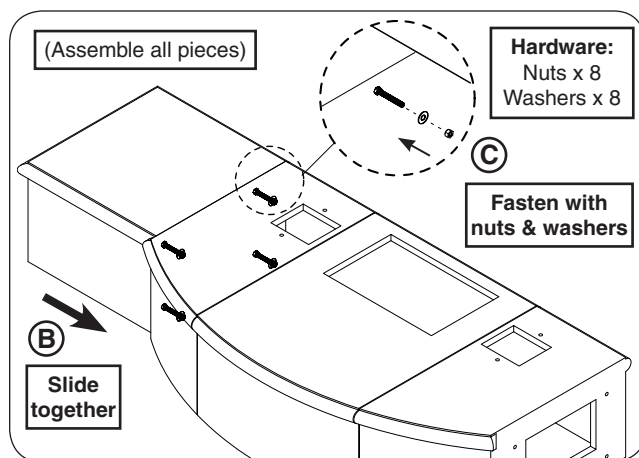

Fig. 17-2 Assemble hearth - slide together & fasten
3. Carefully slide the left outer-piece against the center piece while aligning the pilot holes. Then reach into the center hearth (through access opening), place the washers and nuts, and hand tighten. See Fig. 17-2.